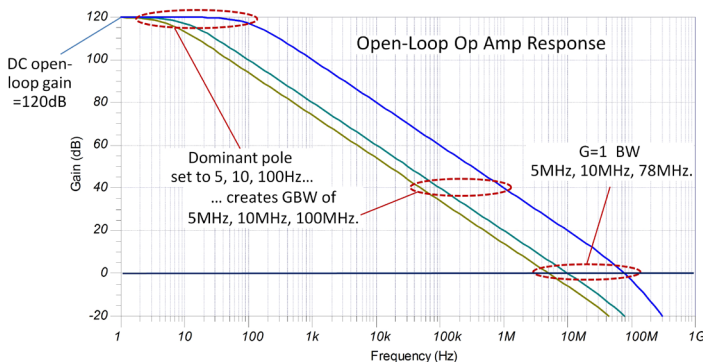
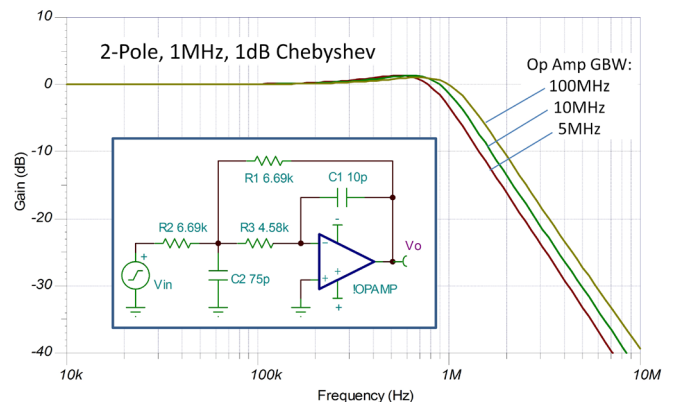

Figure 48: Open-loop response with GBWs of 5 MHz, 10 MHz and 100 MHz.
Figure 49: A Chebyshev filter designed in WEBENCH Filter Designer software, but GBW may be more stringent than necessary.
First, set its direct current (DC) open-loop gain to 1 M (120 dB). Then, a dominant pole frequency (entered in hertz) will create a GBW of the amplifier in megahertz. In this example, a 10-Hz dominant pole creates a GBW of 10 MHz. Figure 48 shows the open-loop response for three different GBWs: 5 MHz, 10 MHz and 100 MHz.
Active filter designs can be tricky to judge GBW requirements and are a good case for using this technique. WEBENCH® Filter Designer, used to design the Chebyshev filter in Figure 49, provides GBW recommendations, but its guidelines may be more stringent than needed in some circumstances. For this design, it recommends a 100-MHz or greater GBW to achieve nearly ideal filter-design characteristics. I simulated the design using the three GBWs shown in Figure 48: 5 MHz, 10 MHz and 100 MHz. With these results, you might decide that a GBW less than 100 MHz could be satisfactory. For final simulations, you should use the macromodel for the op amp you select.